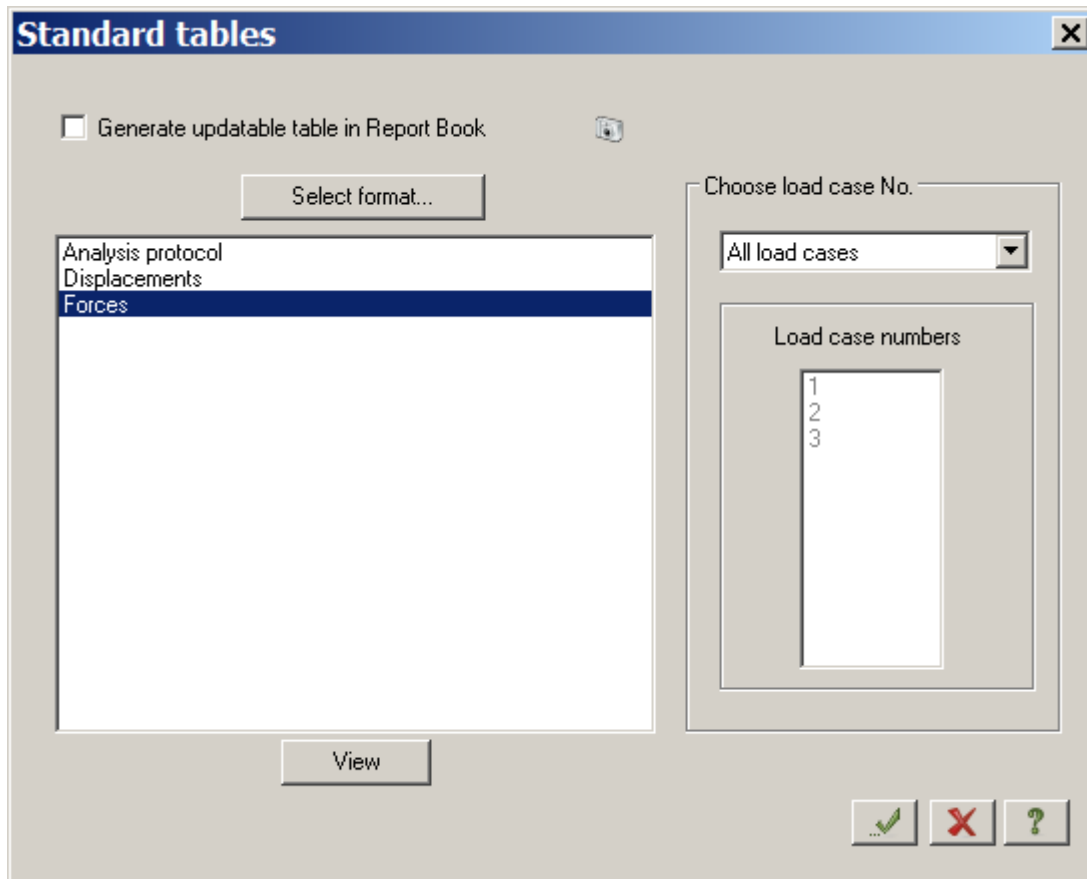

Figure 22.21 **Standard tables** dialog box
- ⇒ In the **Standard tables** dialog box (see Fig.22.21), select **Forces** in the list.